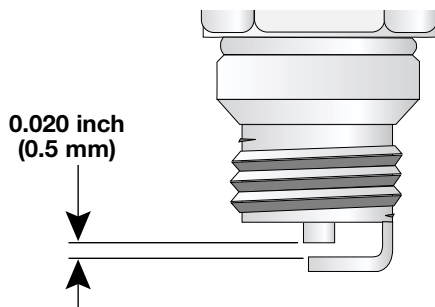

Figure 17
- Set the air gap at 0.020 inch (0.5 mm) using a feeler gauge. See Figure 17.